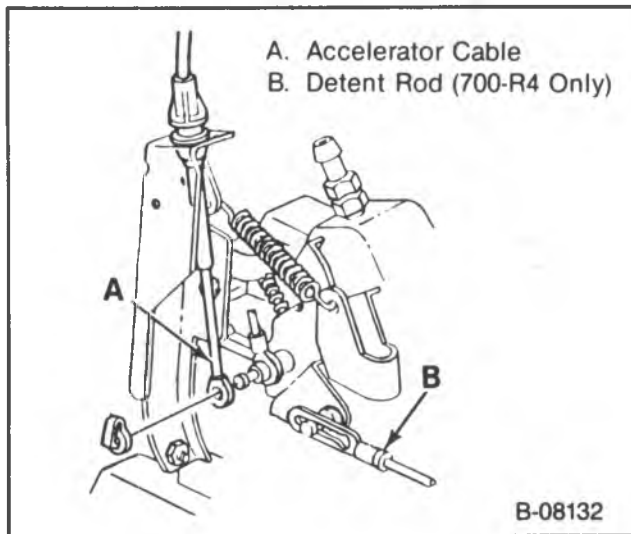

Figure 6 — Accelerator Linkage
Remove or Disconnect (Figures 6, 7 and 8)
4. Accelerator cable at the injection pump (figure 6).
Install or Connect (Figures 6 through 10)
12. Accelerator cable (figure 6).